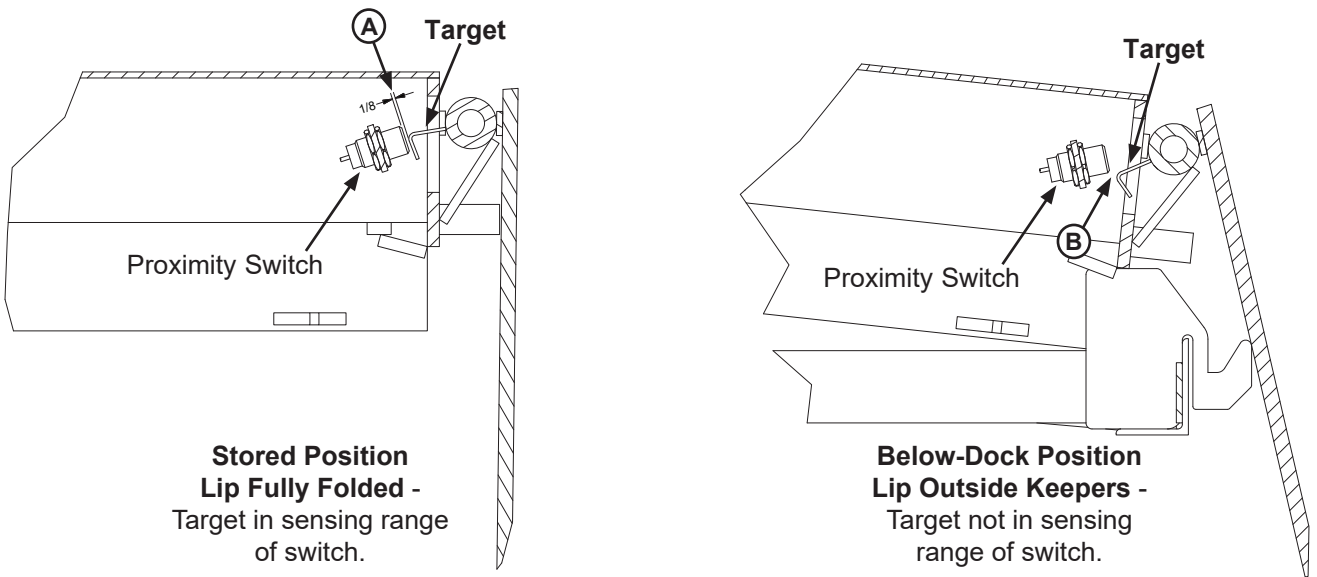

Figure 31
3. Press the RAISE button. The dock leveler should NOT raise. If the leveler did not raise, proceed with step 4. If the leveler did raise, decrease dimension (A), so that the target is in the sensing range of the switch. Typical factory setting for (A) is approximately 1/8". Make adjustments at switch until leveler does not raise when the vehicle restraint is not engaged on transport vehicle RIG bar. See Figure 31.
6. Press the RELEASE button. The vehicle restraint should NOT disengage from the transport vehicle RIG bar or test fixture. If the vehicle restraint did NOT disengage, proceed with Step 7. If the vehicle restraint DID disengage, move the switch farther from the target or bend the target to increase dimension (B) so that the target is not in the sensing range of the switch. Make adjustments at switch and/or target until vehicle restraint does not disengage transport vehicle. See Figure 31.